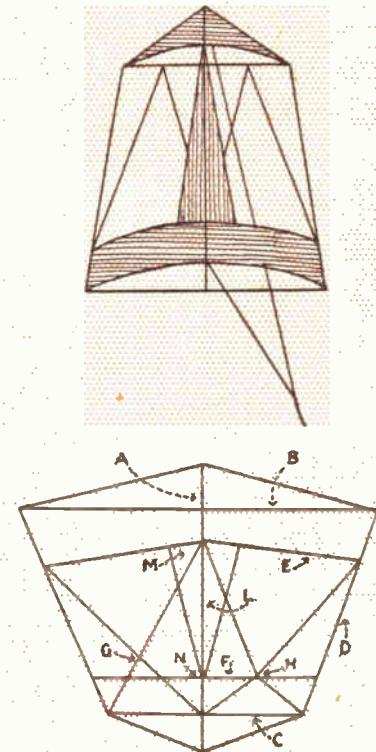

Fig. 3
This is a grand flyer seen in Fig. 3. The main centre rib (A) is a piece of split cane or flexible wood, 31ins. long. Two pliable cross pieces (B, 31ins. long and C, $2\frac{1}{2}$ ins. long), are also required. The cross piece (B) is fixed $1\frac{1}{2}$ ins. from one end, and (C) is $2\frac{1}{2}$ ins. from the other end of (A). Use thin twine to lash them